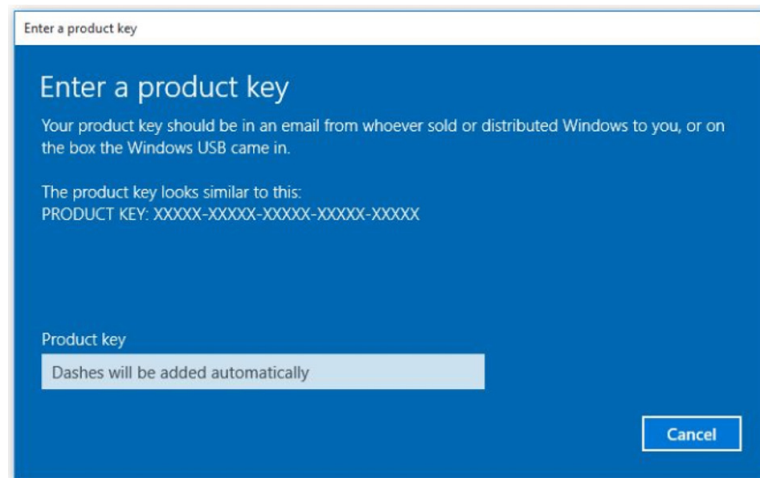

Figure 21. Enter the Windows Activation code provided with the upgrade kit.
- 8 Follow the on-screen instructions from the **Settings > Activation** view. When presented with the **Enter a product key** dialog, enter the Windows Activation code provided with the upgrade kit (**Figure 21**).